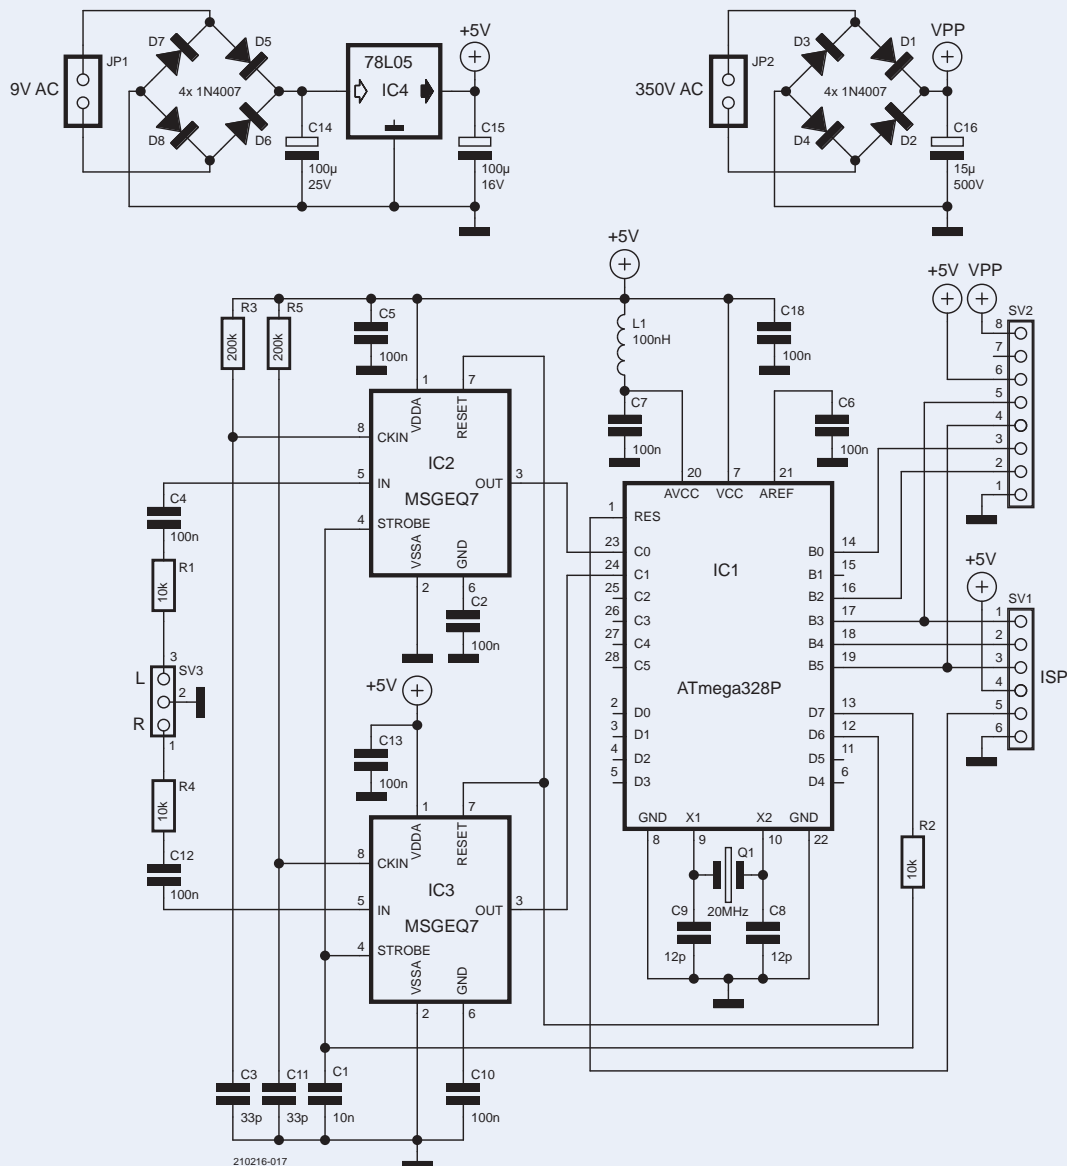

Figure 2: Schematic diagram of the main unit.
**Figure 2** shows the schematic diagram of the control unit and the dual power supply
The design needs two supply voltages: 5 V and 400 V. The electronic components needed for the supplies are also drawn in Figure 2. The 5-V supply is straightforward: a 9-V transformer with a diode bridge, a 78L05